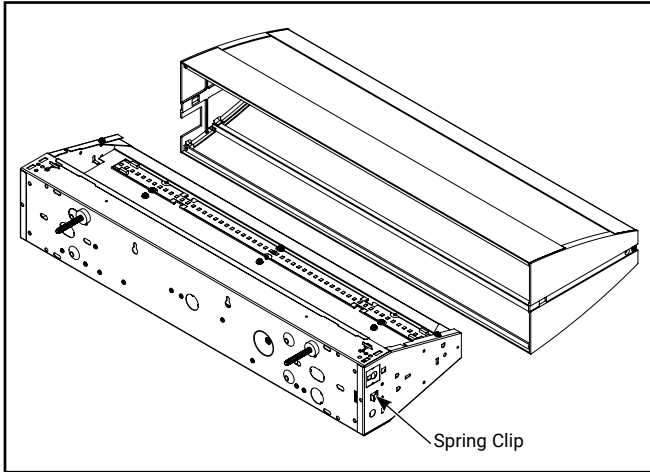

Figure 1. Lens Assembly Removal
1. Press spring clips to unlatch the lens assembly (Figure 1).